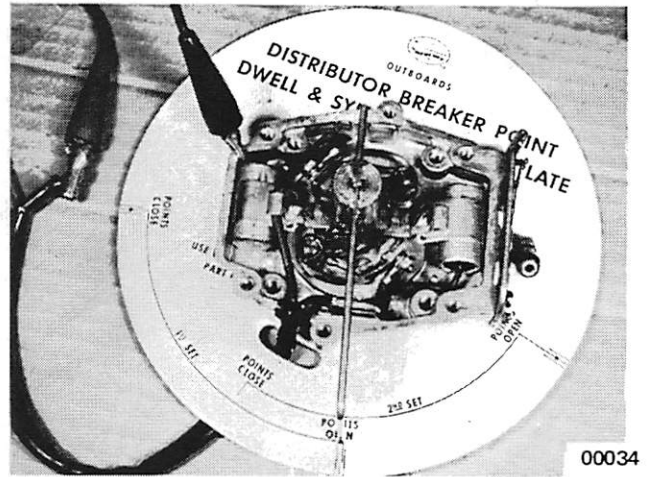

Figure 9. Dwell Plate (C-91-30356A1)
6. Rotate indicator arm counterclockwise until breaker points open, which will be indicated by the sudden movement in opposite direction of meter pointer hand. Indicator hand must be exactly on centerline marked "Points Open". (Figures 9 and 10)